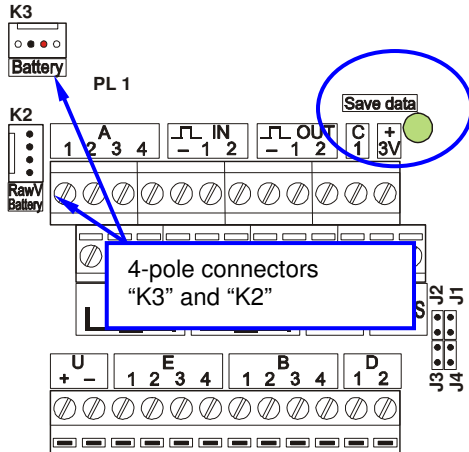

Fig. 1, Connectors K2 and K3
2. Turn the power off by removing the 4-pole connectors "K2" and "K3", se fig. 1.